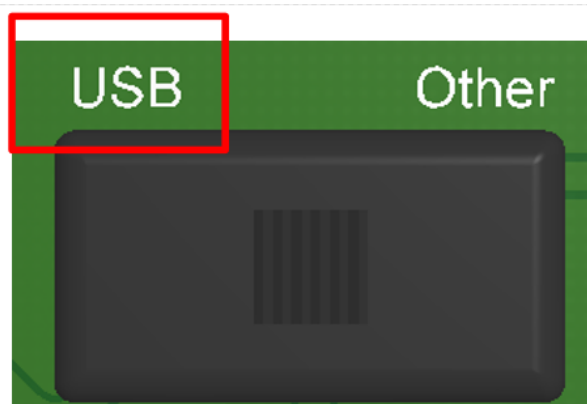

Figure 44. USB vs Other = 'USB'
- If you are going to power the programming board with USB, set the switch to “USB” as shown in Figure 44